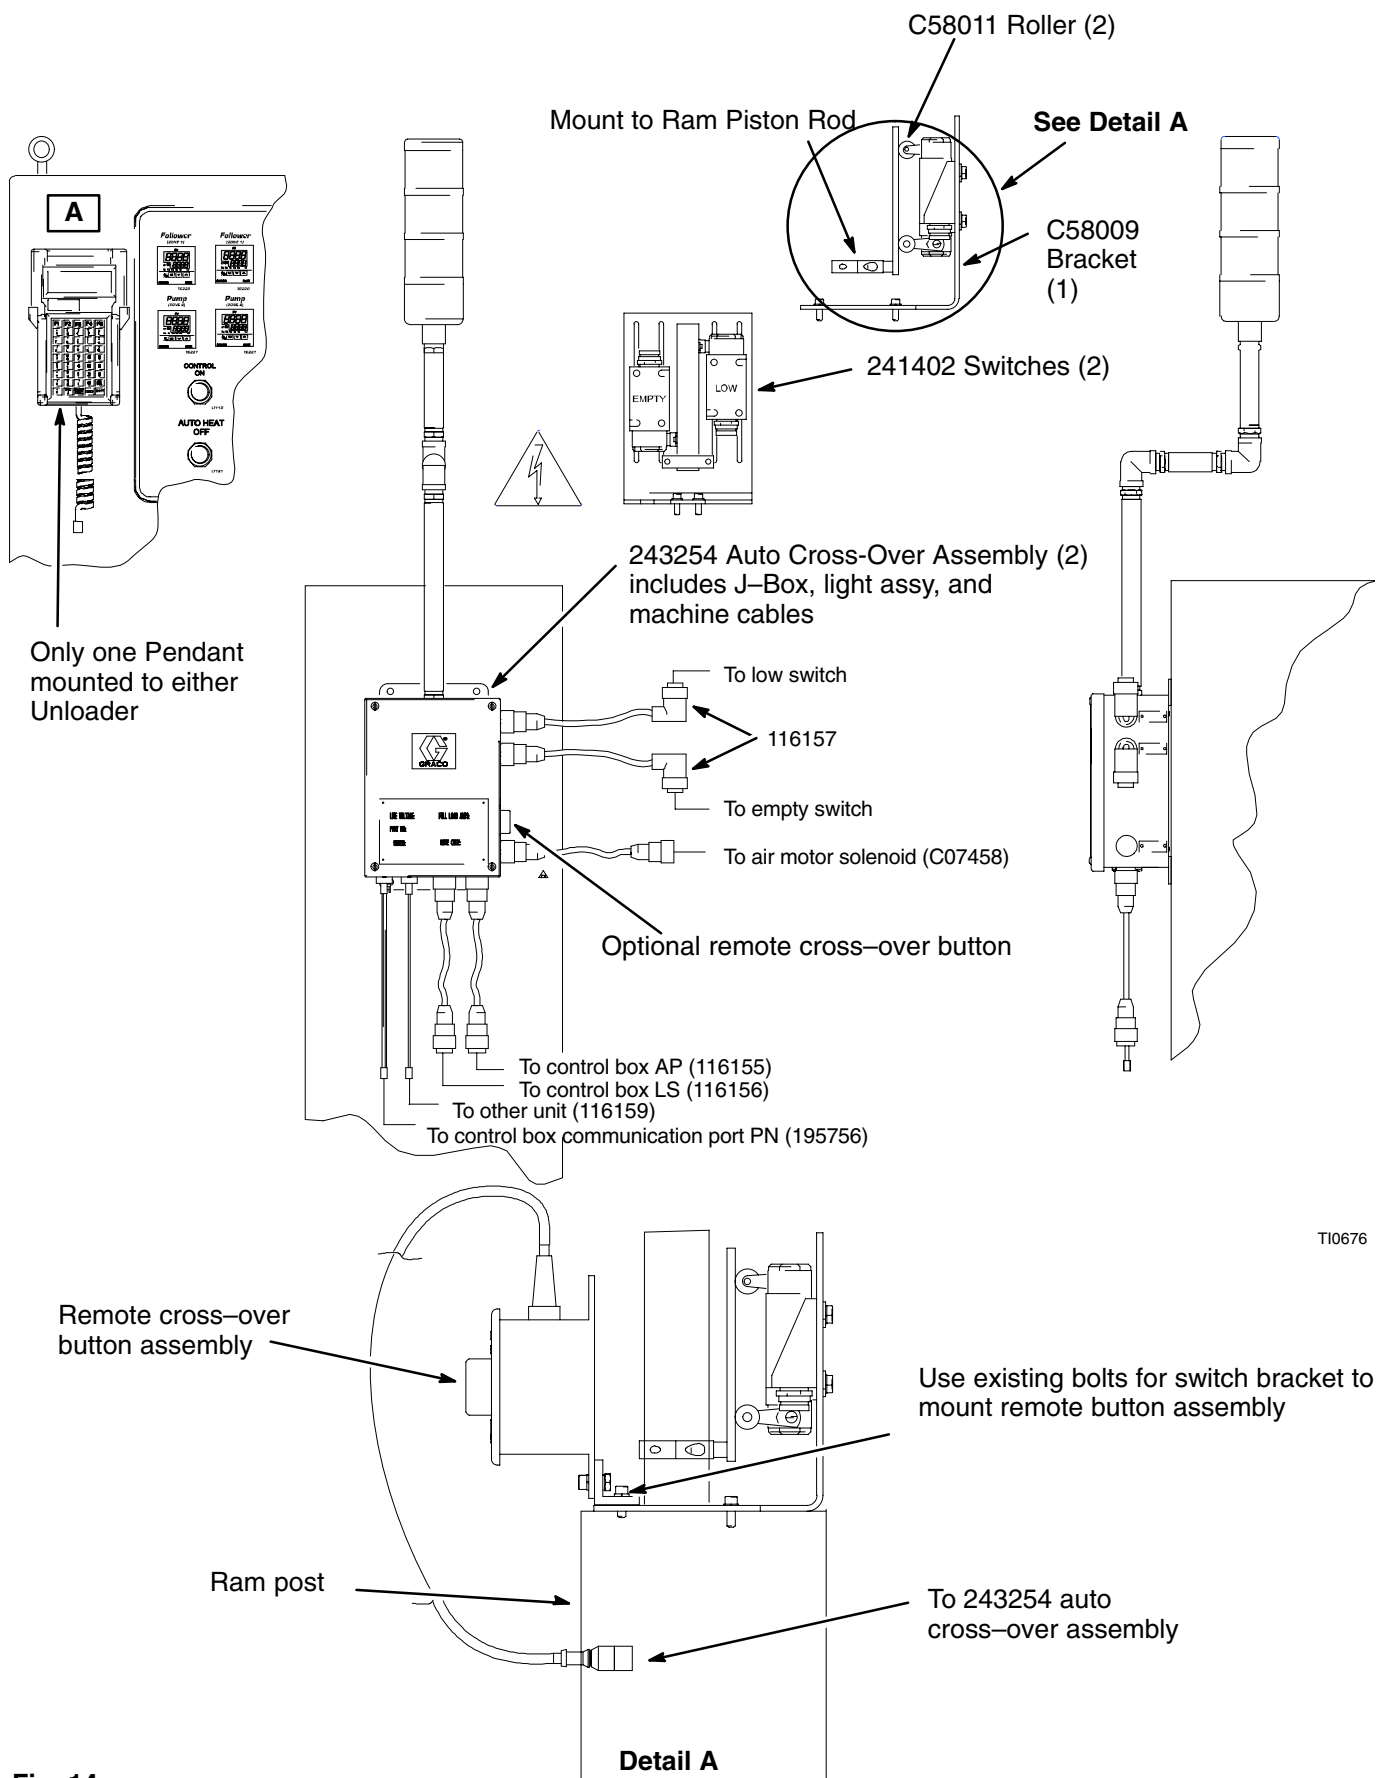

Fig. 14
If your Therm-O-Flow Plus system has cross-over control boxes (243254) installed on each unloader assembly (A) and (B), the X-Over functions of the pendant are functional. The unloaders are typically shipped pre-installed at the Graco factory with label (A) and (B) placed on the upper left hand corner of the main control box. See Fig. 14.